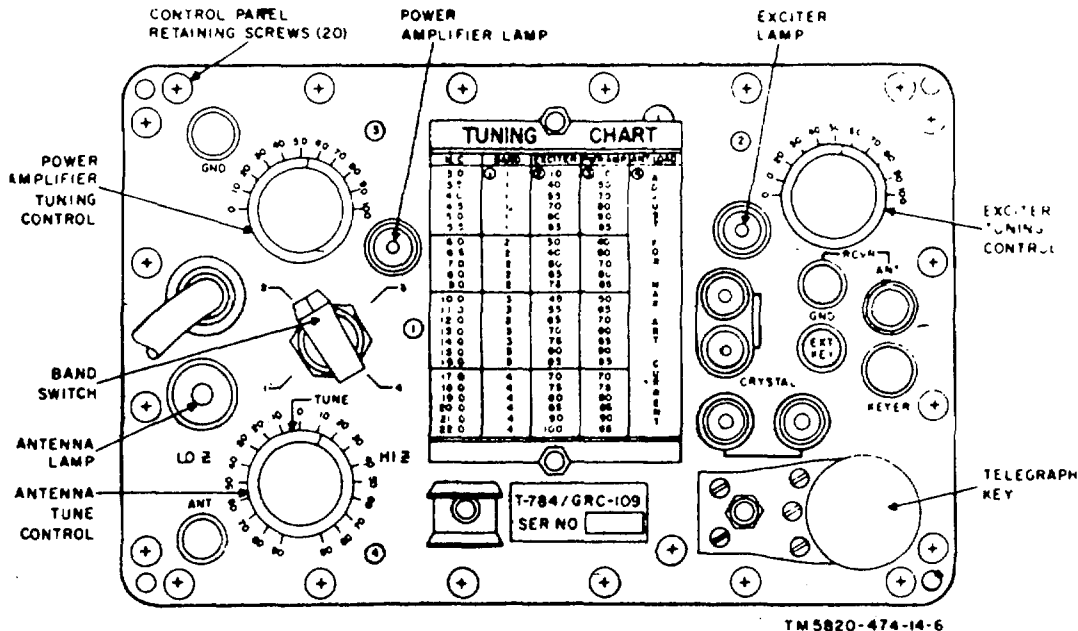

Figure 8. Radio transmitter, t-184/GRC-109, front panel.
- (1) *Pipe grounding.* Use this method of grounding if possible. The wire between the GND post on the transmitter and the connection to ground (soil) must be as short as possible. To obtain a good ground, connect the ground wire to a cold-water pipe with the ground clamp. If no cold-water pipe is available, drive a pipe 4 to 6 feet into the soil, and then connect the ground clamp and ground wire to the pipe. Keep soil about the pipe saturated with water.
- (2) *Counterpoise grounding.* If conditions at the operating site prohibit pipe grounding, a counterpoise must be installed. A counterpoise consists of one or more extended lengths of wire, 75 to 100 feet in length, connected to the GND binding post on the transmitter and placed on the surface of the ground directly beneath the horizontal portion of the antenna.
d. *Preliminary Connections, Common Antenna System* (fig. 8 and 9).
- (2) Connect the antenna lead-in to the ANT binding post (fig. 8) on the transmitter.
- (3) Connect a length of rubber-covered wire between the ANT bindingpost on the receiver (fig. 9) and the RCVR ANT binding post (fig. 8) on the transmitter. Keep this connection as short as possible.
- (4) Connect a wire between the GRD binding post on the receiver and the RCVR GND. binding post on the transmitter. Keep this connection as short as possible.
- (5) Connect the ground system to the GND binding post on the transmitter.
e. *Preliminary Connections, Separate Transmitting and Receiving Antennas* (fig.8 and 9). Separate transmitting and receiving antennas may prove to be more effective under poor transmission conditions, particularly at lower frequencies.. Separate transmitting and receiving antennas are recommended when using an external high-speed keyer.
- (2) Connect one lead-in to the ANT binding post (fig. 8) on the transmitter.
- (4) Connect the RCVR GND binding post (fig. 8) on the transmitter to the GND binding post on the receiver with a short wire.
- (6) Connect the REC ANT bindingpost and the REC GND binding post on the transmitter with a short wire.
a. Radio Transmitter T-784/GRC-109 (fig. 8).
b. Consult the tuning chart on the transmitter (fig. 8) and turn controls (1), (2), and (3) to the settings indicated on the chart.
(fig. 8)